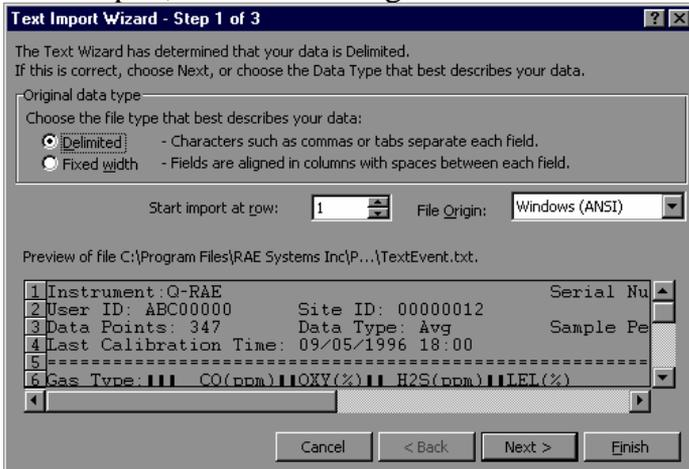

Figure C-3 Text Import Wizard Dialog Box
3. Click the **OK** button; a **Text Import Wizard** dialog box is open, as shown in Figure C-3.